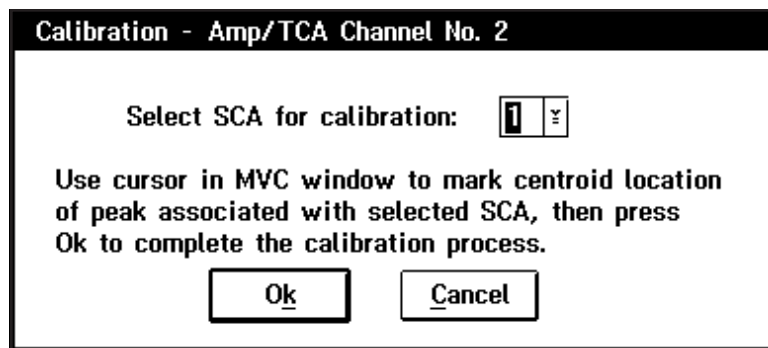

Figure 16 Choosing the SCA to Calibrate
- g. Once the peak has been properly centered, press the Ok button. You will now be presented with the screen shown in Figure 16. As noted on this screen, use the cursor in the MVC window to mark the peak location (centroid). When done, press Ok (make sure you have selected SCA #1).